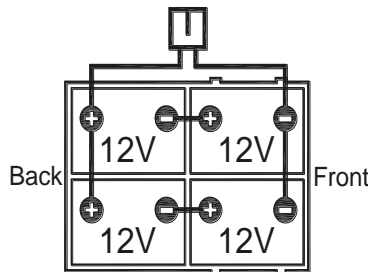

Figure 4
The machine requires two 12V batteries or four 6V Batteries, connected according to the diagram (Figure 4). Put the battery fixed plate correctly as (Figure. 4).
4. The machine is supplied with cables suitable to install two 12V batteries or four 6V batteries. Carefully put the batteries into the compartment, then install them correctly. Put the battery fixed plate correctly as (Figure. 4).
5. Route and install the battery cable as shown in (Figure 4), then carefully tighten the nut on each battery terminal.